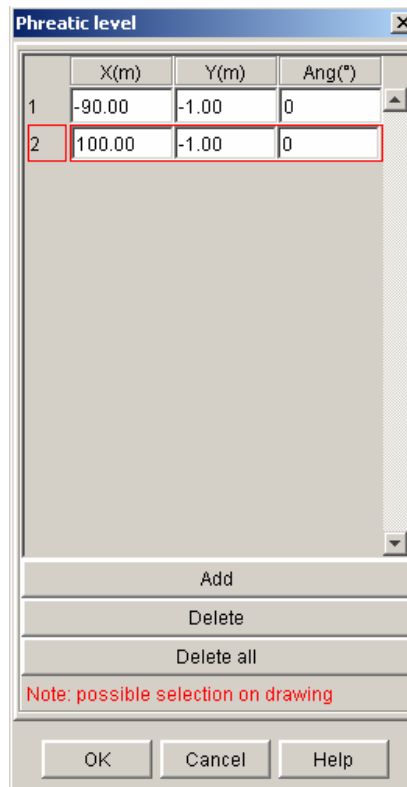

Figure 54: *examp22e.prj* file, definition of the phreatic level
- Click on the button  to access the hydraulic conditions definition. The option “Phreatic level” is selected. Click on the button “Define phreatic level” to view the definition of the phreatic level. A dialogue box displaying the table of the points describing the phreatic level pops-up, but it contains only one point: a unique point was enough in Talren 97 to define a horizontal phreatic level. However, in Talren 4, it is necessary to define the phreatic level from  $X_{min}$  to  $X_{max}$ . So it is necessary to add a point with coordinates (100, -1,0). The dialogue box is shown in Figure 54.